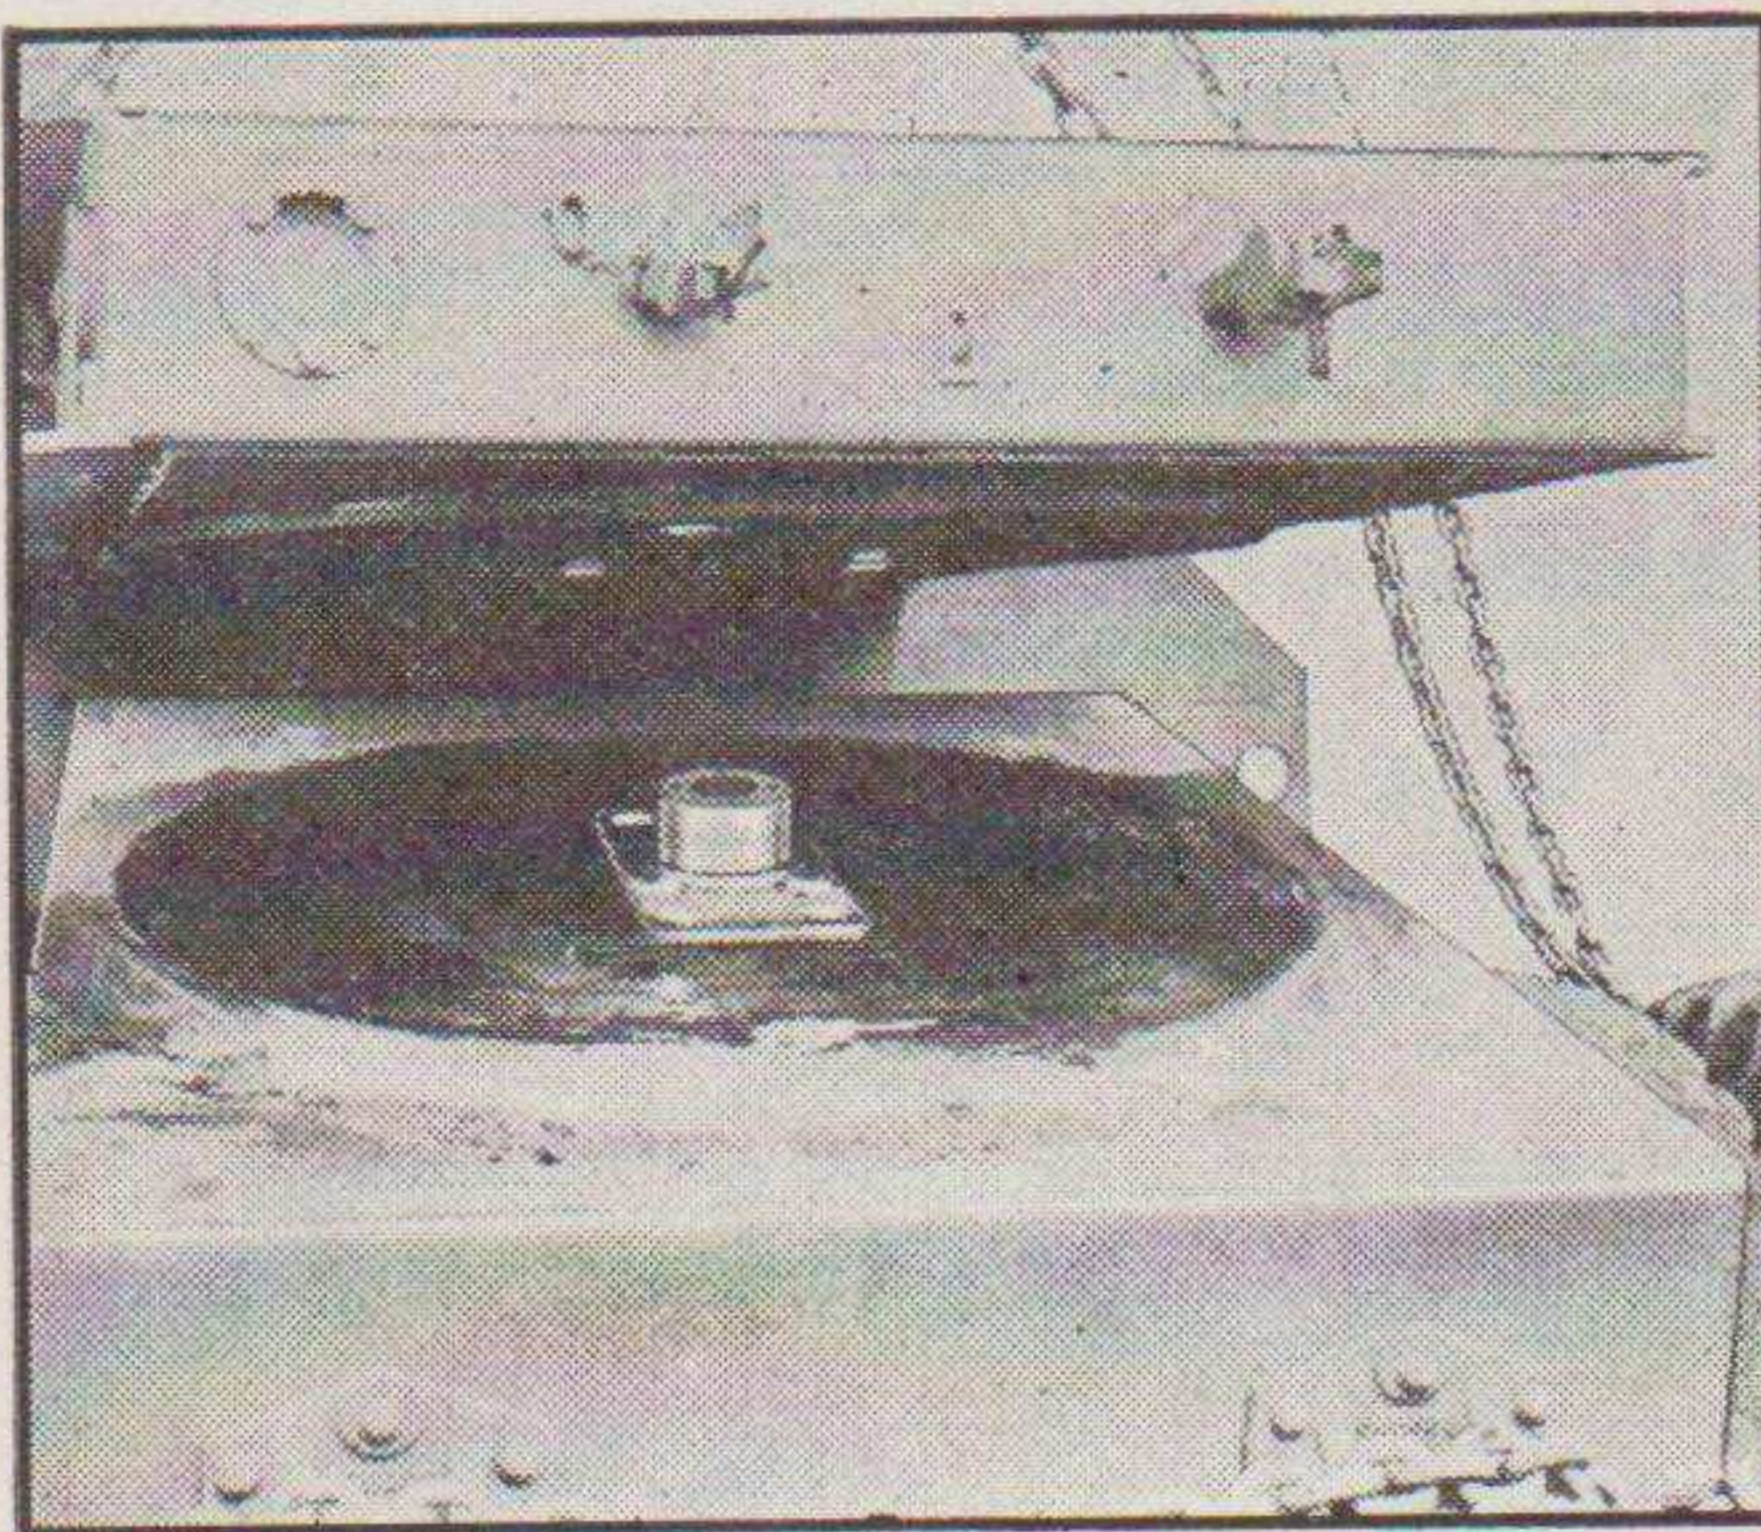

FIGURE 34. TRAILER AND GEAR
f. Bolt the new bolster plate in place, using 2" hollow bolt. Drive four rivets, then remove the four bolts and continue driving rivets. Grind top of rivets flush with the bolster plate. (Refer to Figure 34.)